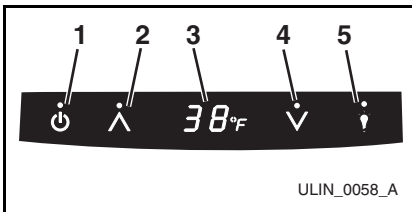

Figure 3
To turn the unit on or off, touch and hold the POWER icon (Figure 3, 1) on the display panel for approximately ten seconds until the °F symbol flashes and release.
- The display (Figure 3, 3) will show the unit set-point temperature (38°F) when the unit is on and will show OFF when the unit is off.
The LIGHT icon (**Figure 3, 5**) on the control panel is used to control an additional lighting function. The blackout/Sabbath mode (not Star K certified) will turn the interior light and display (**Figure 3, 3**) off for a preset 36-hour period.
1. Touch and hold the LIGHT icon (**Figure 3, 5**) for ten seconds and release (the °F symbol will flash briefly at the end of the five second period).
2. The interior light and control display (**Figure 3, 3**) will go dark for the next 36 hours.